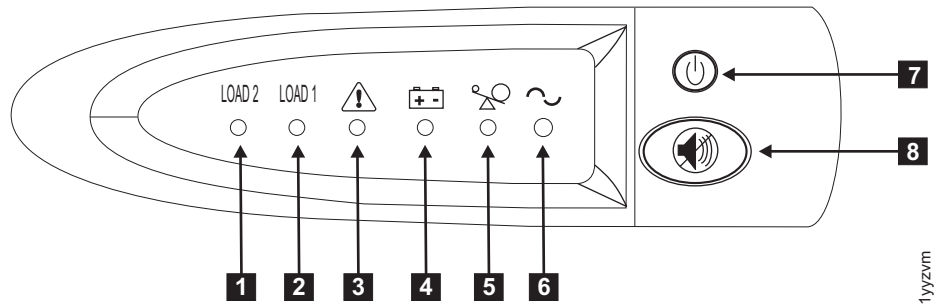

Figure 274. 2145-1U uninterruptible power supply front panel assembly
12. To turn on the 2145-1U uninterruptible power supply, press and hold the on/off button (**2** in Figure 274 on page 601). On some versions of the 2145-1U uninterruptible power supply, you need a pointed device, such as a screwdriver, to press the on/off button. The 2145-1U uninterruptible power supply undergoes a self-test, taking approximately five seconds, before the power-on indicator **1** and the load indicators (**7** and **8**) light up permanently to indicate that the 2145-1U uninterruptible power supply is supplying power to the SAN Volume Controller. The 2145-1U uninterruptible power supply begins to charge its battery while in normal mode.